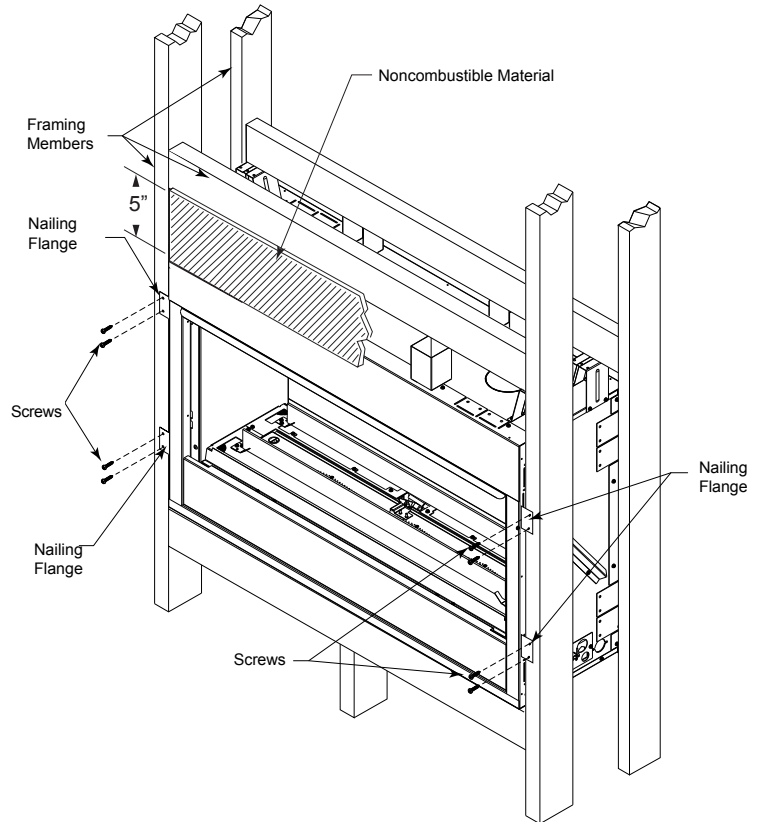

Figure 8. Secure Fireplace to Framing Studs
The fireplace must be secured to the framing studs as shown in Figure 8. Use four (4) screws to attach fireplace to framing. The side nailing flanges are 1/2" or 5/8" to accommodate different wall thickness.